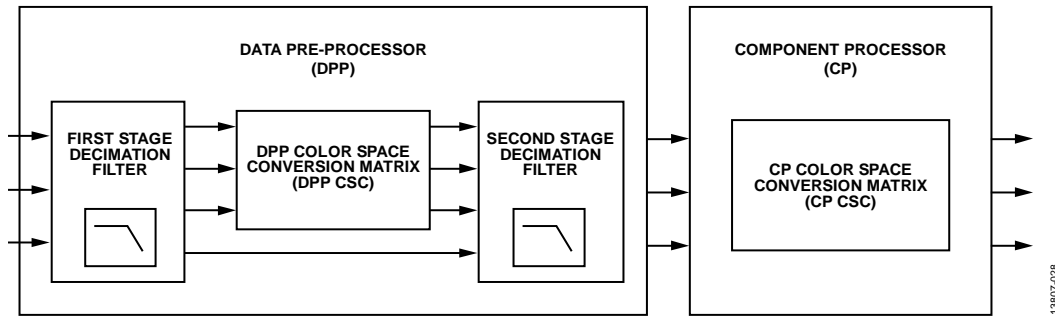

Figure 28. DPP/CP CSC Block Diagram
The ADV7613 provides any-to-any color space support. It supports formats such as RGB, YUV, YCbCr, and many other color spaces. The data preprocessor (DPP) and component processor (CP) run at speeds of up to 170 MHz. The ADV7613 features a 3x3 color space conversion matrix (CSC) in the CP block (CP CSC), as shown in Figure 28. The CP CSC also provides color controls for brightness, contrast, saturation, and hue adjustments. The DPP block features an automatic CSC. The ADV7613 automatically configures the DPP CSC depending on the input and output formats and the use of the color control feature.